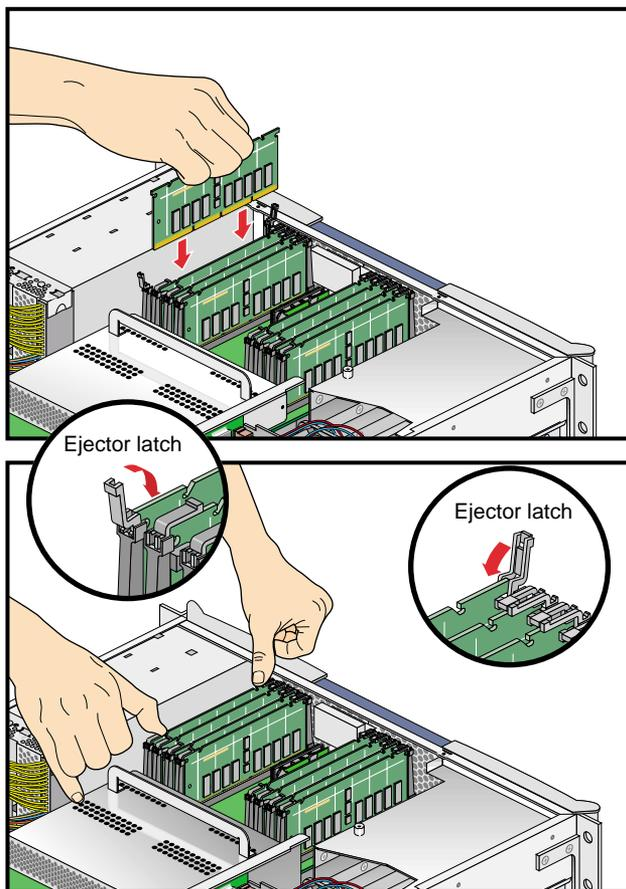

Figure A-8 Inserting a DIMM
5. Install the DIMM, as follows (see Figure A-8):
- e. Gently push the plastic ejector latches down to secure the DIMM, as shown in Figure A-8. When the DIMM is fully seated in the connector, the ejector latches snap into place.